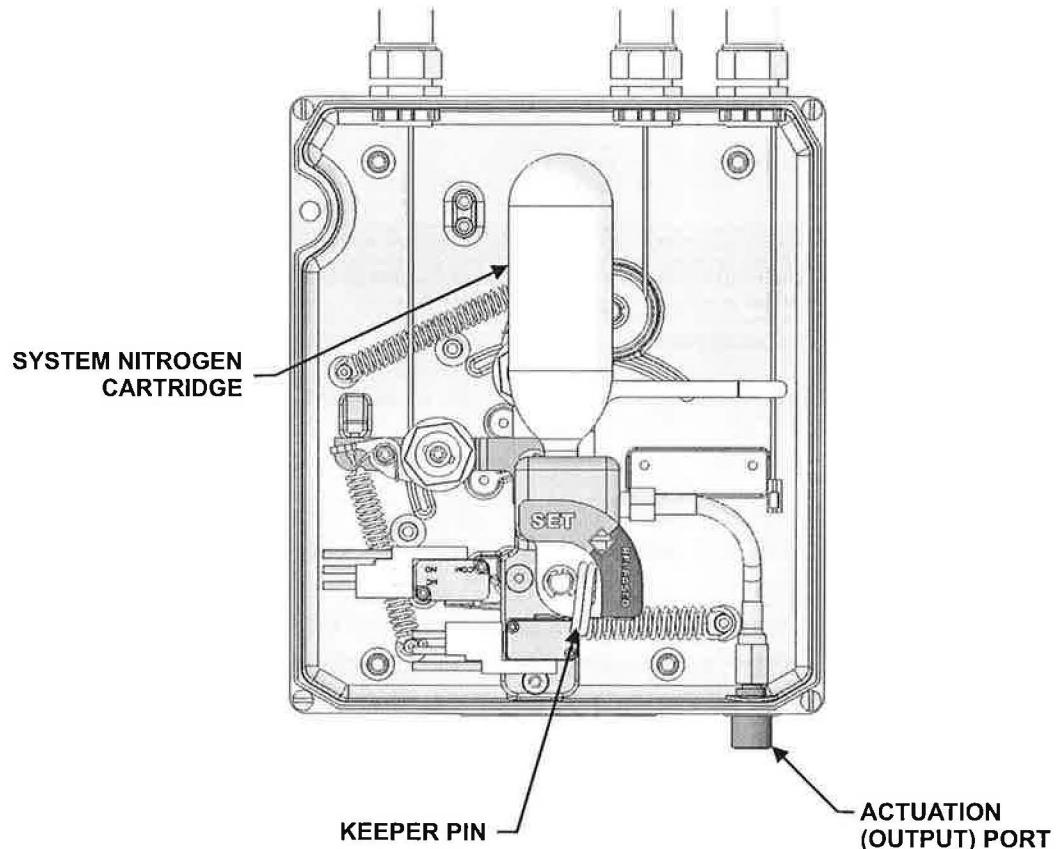

Figure 5-2. UCH Control System, Internal View
3. Remove the cover from the UCH Control System. Install Keeper Pin. See Figure 5-2 for Keeper Pin location.
4. Remove the System Nitrogen Cartridge (P/N B120043). Refer to Figure 5-2 for location in UCH Control System.
6. Verify installation of the lockout screws for appropriate usage (refer to Figure 5-2).